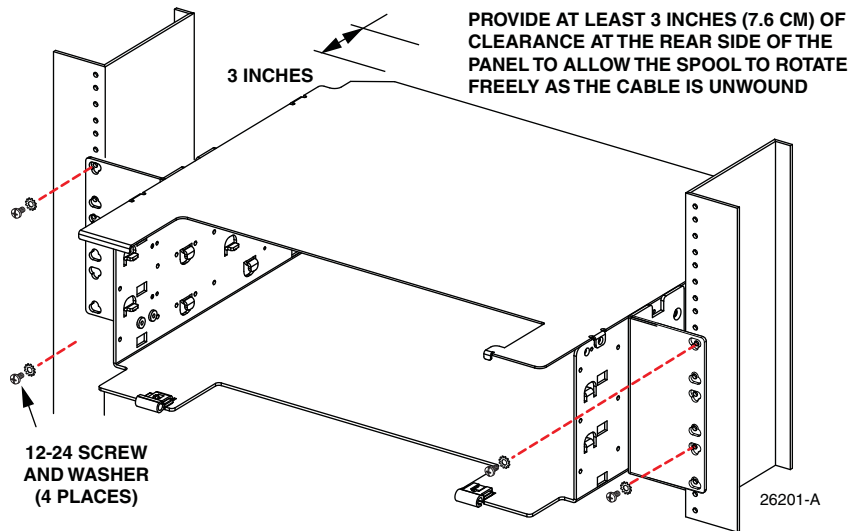

Figure 37. Mounting the Panel Shell in the Rack
6. Secure the panel shell to the rack or cabinet using the four 12-24 screws and star washers (per local practice) provided, as shown in Figure 37.